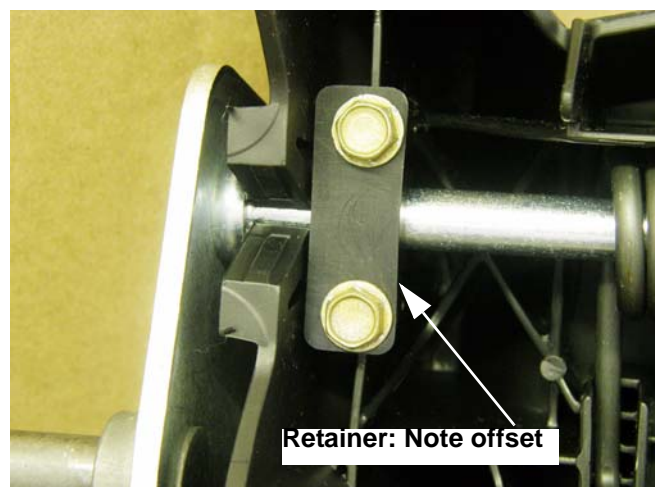

Figure 4.31
14. When the axle is in position, secure it with the axle retainers. See Figure 4.31.